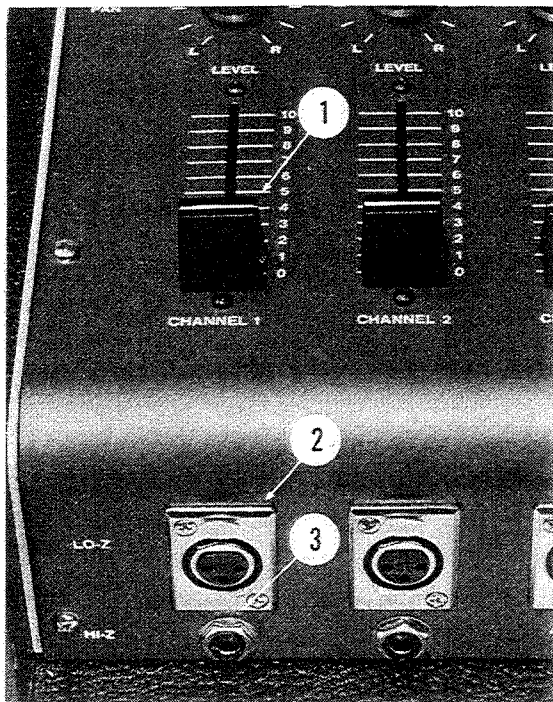
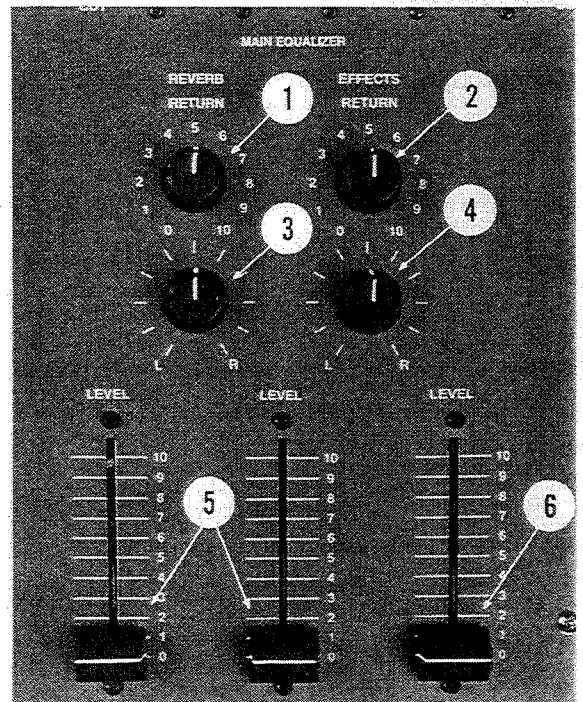

FIGURE 5 — Channel Level Control
FIGURE 6 — Main Section Controls
Channel Level Control (Fig. 5 - Item 1)
Left and Right Channel Master Level Controls (Fig. 6 - Item 5)
Monitor Channel Master Level Control (Fig. 6 - Item 6)
Reverb Return Control (Fig. 6 - Item 1)
Reverb Pan Control (Fig. 6 - Item 3)
Effects Return Control (Fig. 6 - Item 2)
Effects Pan Control (Fig. 6 - Item 4)
Each channel is provided with a three pin low impedance (Lo-Z) microphone connector (Fig. 5 - Item 2) designed to be used with a low impedance microphone in the range of 50 to 250 ohms. The input is unbalanced and pin 3 is the signal input pin.
A high impedance (Hi-Z) phone jack is also provided for each channel (Fig. 5 - Item 3). This jack allows use of a high impedance (50K to 150K ohms) microphone, and will also accept most line level signals by reducing the channel Gain control.
high impedance microphones into the Hi-Z phone jacks (Fig. 5 - Item 3) and low impedance microphones into the Lo-Z three pin connectors (Fig. 5 - Item 2). The microphone cables should be kept as short as possible and not placed close to wires containing house AC power or lighting cables.
1. Set all Channel, Main, and Monitor Level controls ("faders") to their minimal positions (Fig. 6 - Items 5, 6) (Fig. 5 - Item 1).
7. Set the Main Left and Right Level controls (Fig. 6 - Item 5) to "4" or "5".